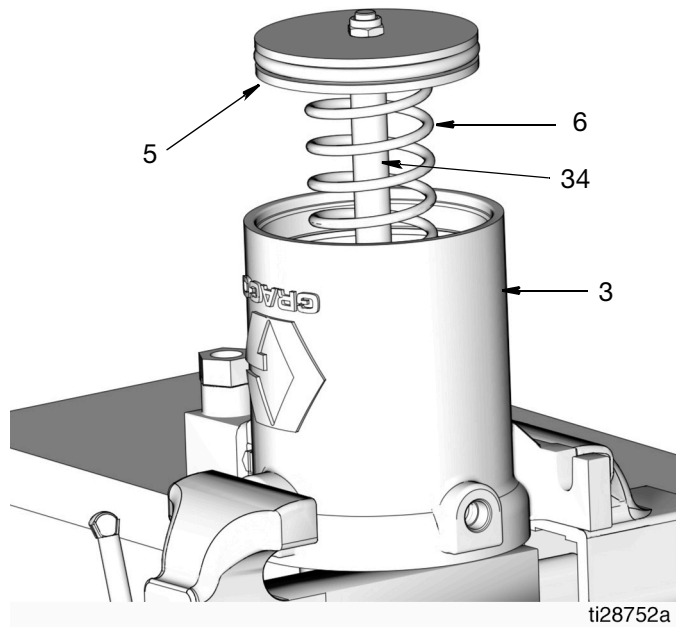

FIG. 21
NOTE: There is a spring (6) inside the air motor cylinder (3) under the piston (5). Hold hand on the cover (1) for resistance and hold it down while loosening the cover screws (1a) (FIG. 21).
22. Remove the piston rod (34), the piston (5), and the spring (6) from the air motor cylinder (3) (see FIG. 21, page 17).